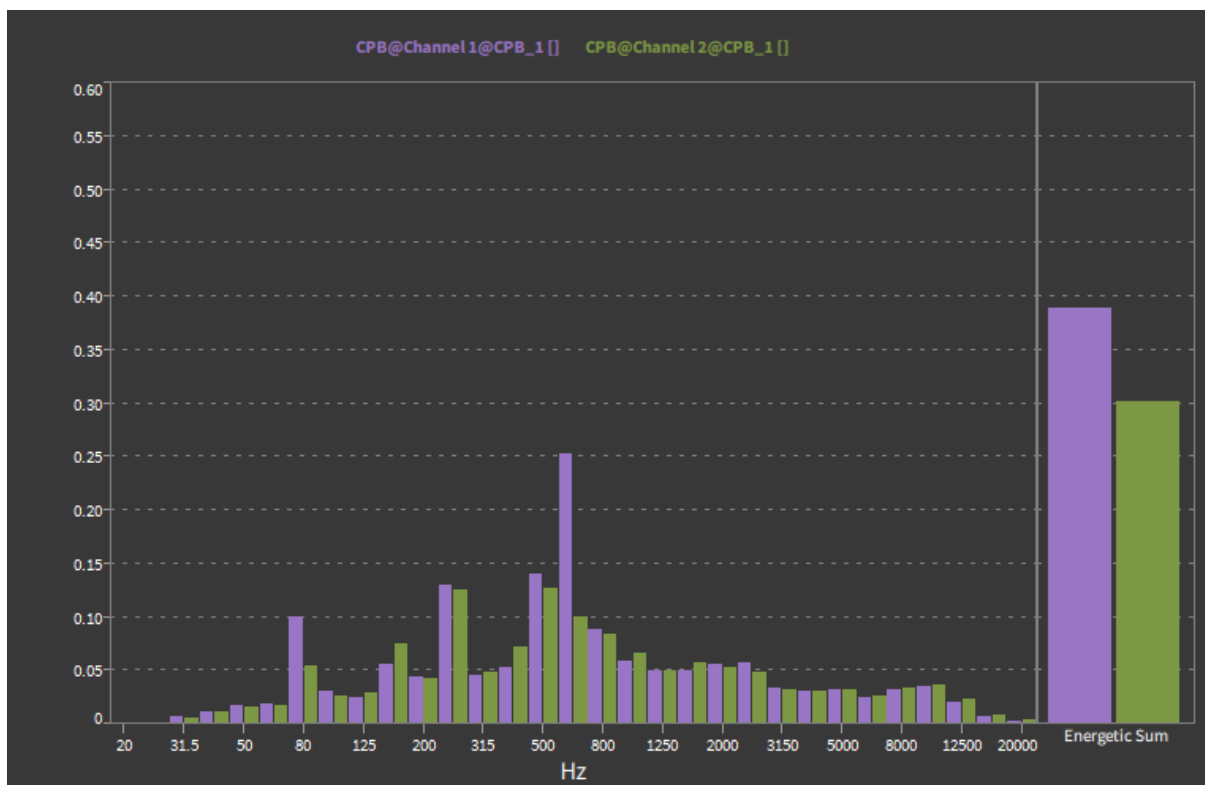

Fig. 8.107: Array Chart with *Total* column included
- **Total Computation:** It is possible to include a *Total* column (see Fig. 8.107) on the right hand side that display the following value: